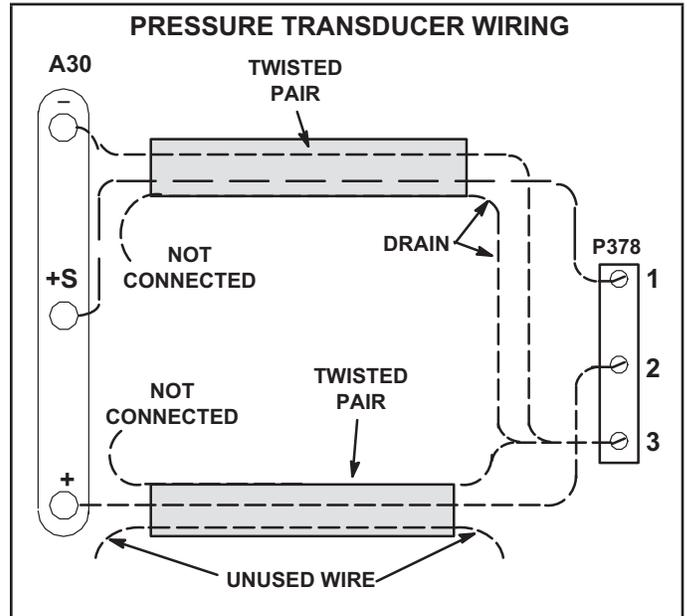

FIGURE 32
- 2 - Two twisted pairs of shielded cable must be used to connect the pressure transducer. See FIGURE 32. J/P378 connector is hanging in the control box.